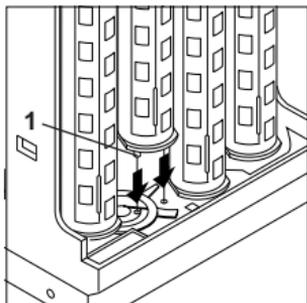

Fig. 11b: Installing the tubes
- 1 Insert the left-hand or right-hand tube into the payout set so that the two pins 1 at the bottom of the tube reach into the holes of the payout set (see Fig. 11b).